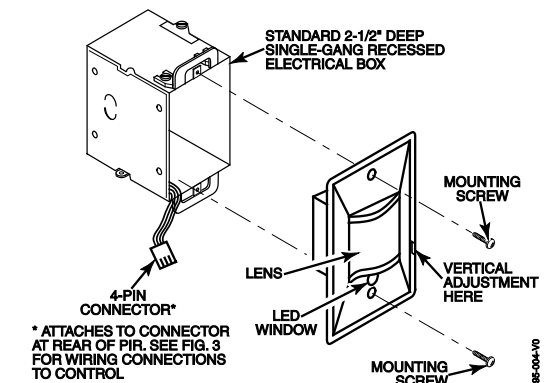

Figure 4. Installation in Recessed Electrical Box
- Mount the PIR to the electrical box using the two screws supplied (see Figure 4).
- Using the blade of a screwdriver, slide the tab in the notch on the right-hand side of the PIR's mounting plate upward (to lower the pattern) or downward (to raise the pattern) (see Figure 4).